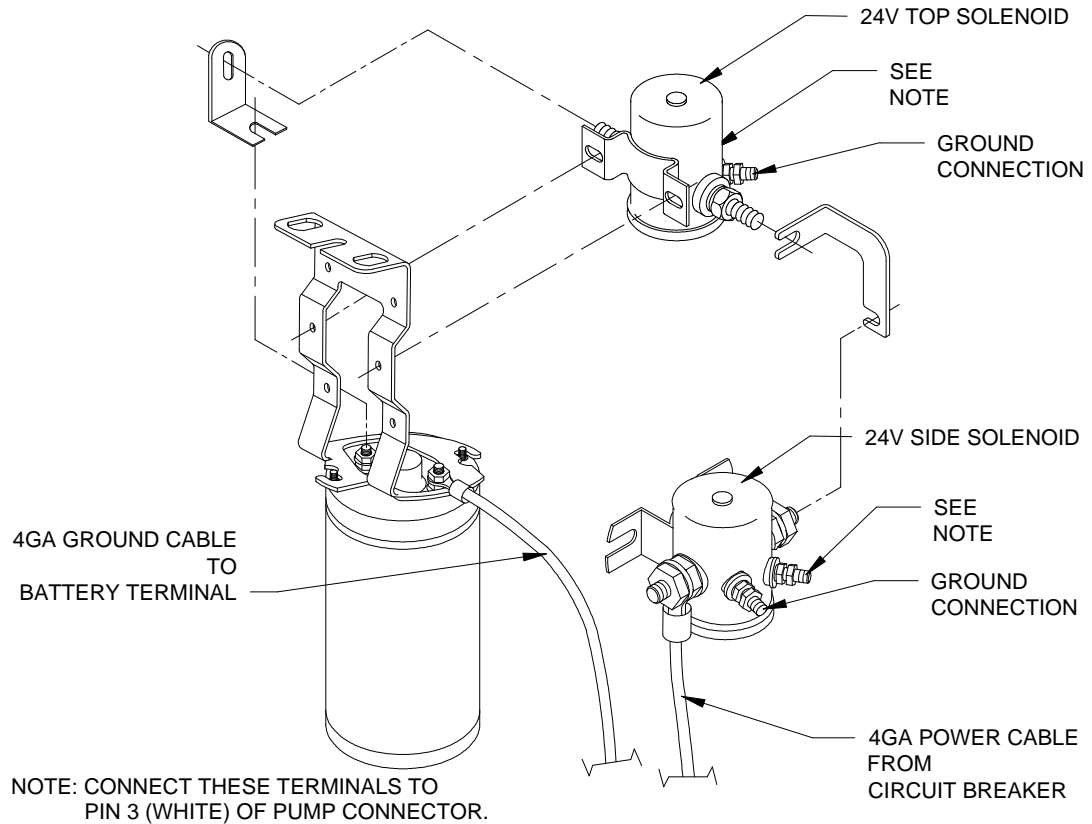

FIGURE 2-13: 24VDC DUAL SOLENOID WIRING
- 2) Refer to **Figure 2-13**. The ground cable is routed from the negative stud (-) on pump motor to the negative battery terminal.
Refer to **Figure 2-13**. This method interrupts power to lift hand control pendant. It does not require additional circuit protection, but does require a modification to lift harness.